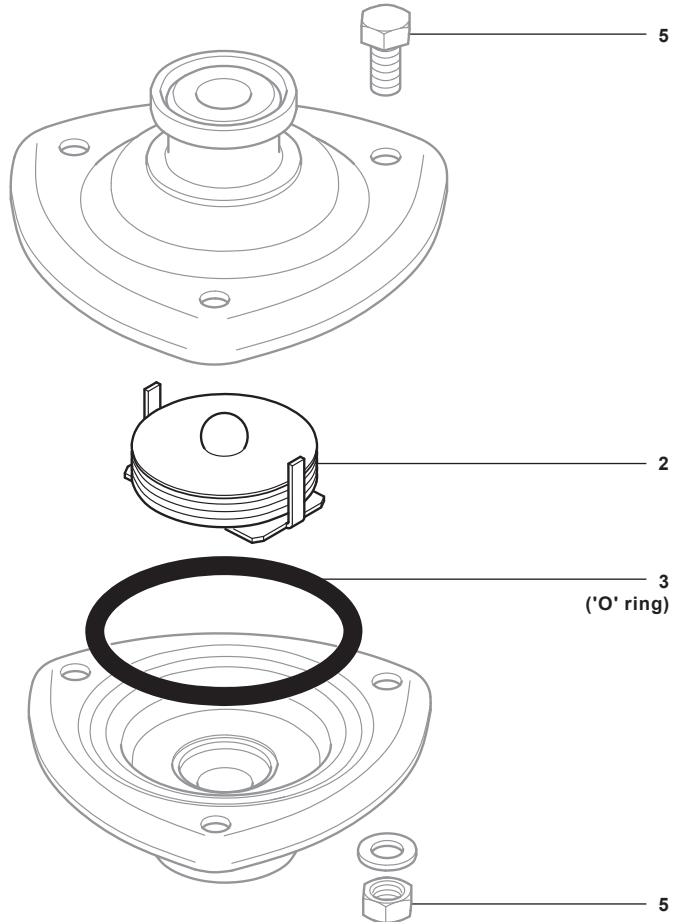

Fig. 2
- The end connection with internal seat, gasket and capsule assembly can then be removed for cleaning or replacement. Ensure that the capsule on reassembly is fitted in the correct position (see Figure 2).